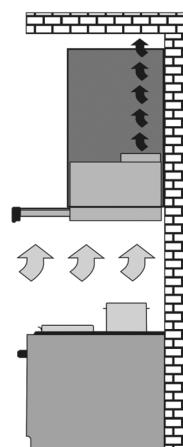

Fig. 2
- in the recirculation mode (Fig. 2) (closed circular air circulation in the kitchen).